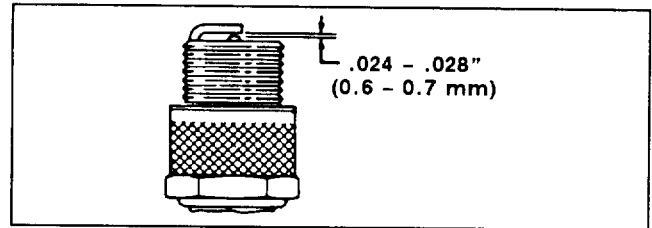

Figure 18
3. Set air gap at .024 - .028" (0.6 - 0.7 mm) (Fig. 18). Install correctly gapped spark plug and gasket seal. Tighten plug firmly to 9 ft-lb (1.2 Kg-m).